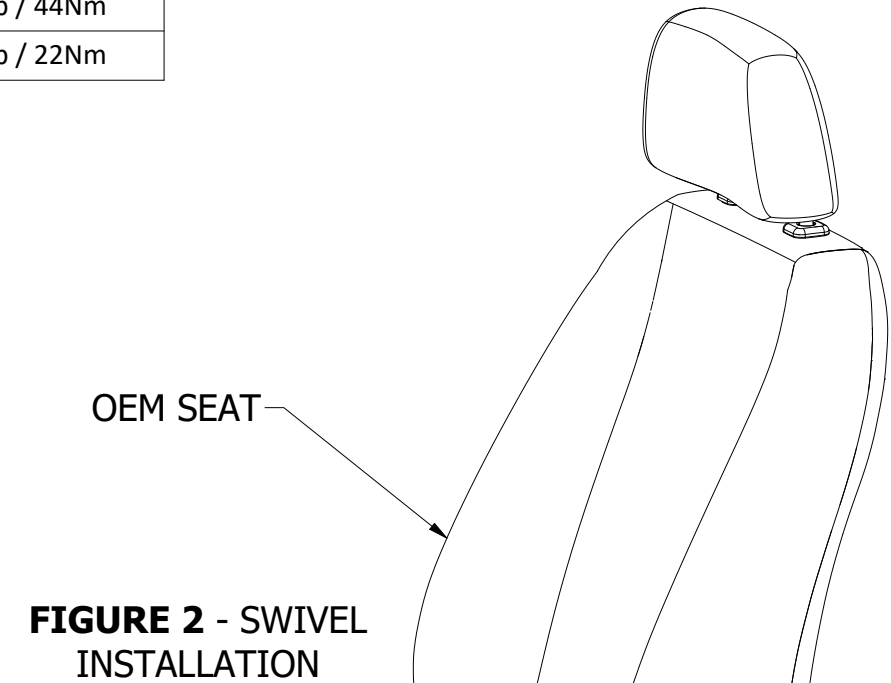

FIGURE 2 - SWIVEL INSTALLATION
4. FIT SWIVEL ASSEMBLY (1) TO PEDESTAL (FIGURE 2). NEXT, THE SEAT CAN BE RE-FITTED
5. ENSURE THE SEAT WIRING HARNESS IS ATTACHED TO THE ATTACHMENT POINT ON TOP OF THE SEAT SWIVEL RELEASE LEVER (FIGURE 2)
6. RE-ATTACH THE REAR SEAT TRIM TO THE ATTACHMENT POINTS ON THE SWIVEL TOP PLATE (FIGURE 2)